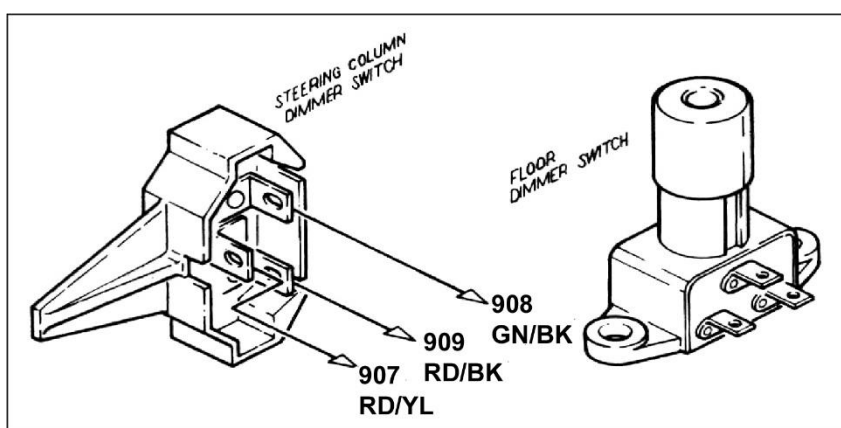

Figure 8-3D Dimmer Switches (Push Button Style – Painless Part #80150)
- 8.3.5** Connect the DIMMER SWITCH SECTION to your floor-mounted Dimmer Switch or column-mounted Dimmer Switch. Refer to **Figure 8-3D**